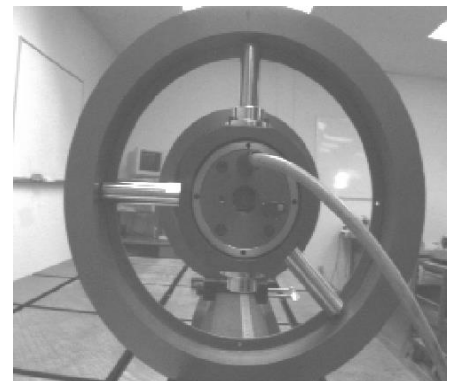

Figure 30 – Bore Target in the INverted position (target cable trailing downward from the top of the target).
14. INvert the T-218/T-225L and take another reading (see Figure 30). Write down the **V** and **H** readings (INverted).
2. Invert the target and take another reading (see Figure 30). Write down the **V** and **H** Readings (INverted).